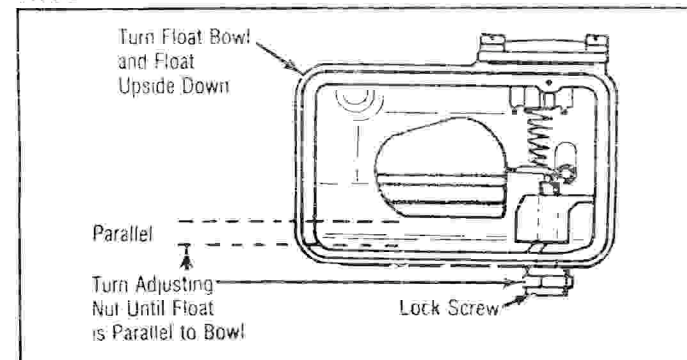

Fig. 3 Float Level Adjustment - Dry Setting
1. Remove float bowl and turn upside down. Top of float should be parallel with float bowl. See Fig. 3.